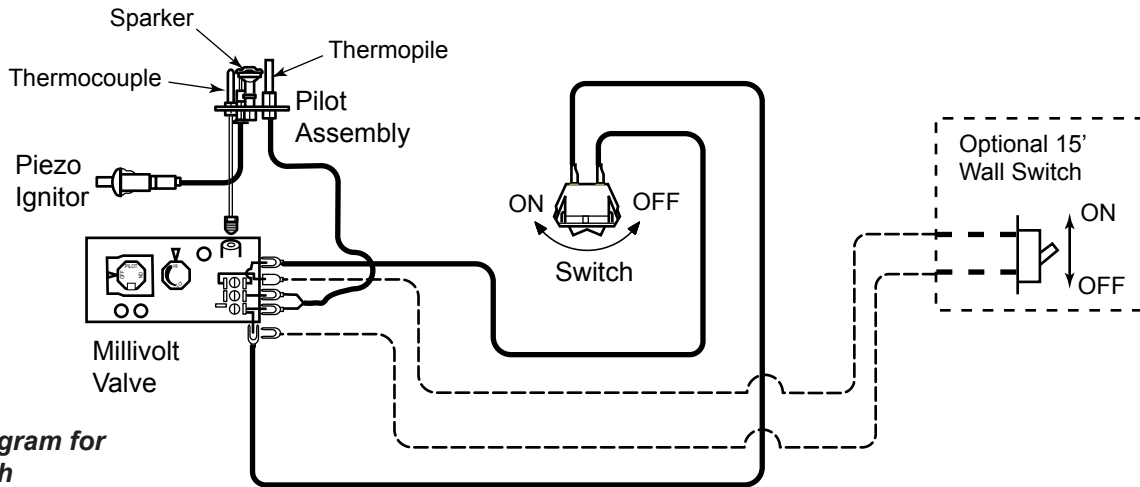

Figure 35 -
A remote wall switch and up to fifteen (15) feet of 18 Ga. wire may be used with this appliance. Attach the wall switch in a junction box at the desired location on the wall. *Figure 35*. Do not extend beyond the wall switch wire length provided.